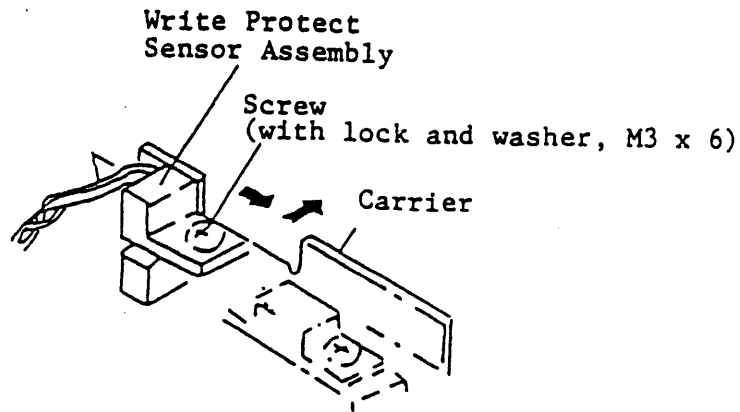

Figure 4.4.1
7. Take out the screws to the Write Protect Sensor assembly, and as shown in figure 4.4.1, remove the write protect sensor assembly by pushing in the direction indicated.